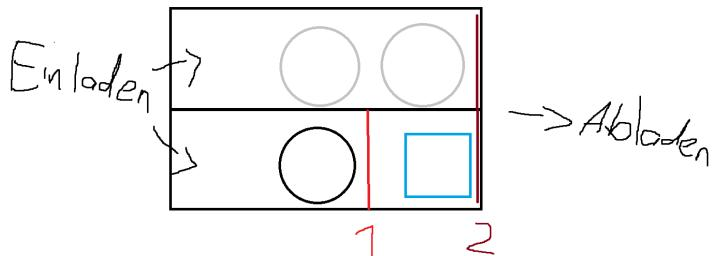

Figure 8: Sketch of final victim/rescue kit unloading mechanism
- Settling on a mechanism like illustrated in Fig. 8
The storage system in Fig. 8 works in the following procedure: